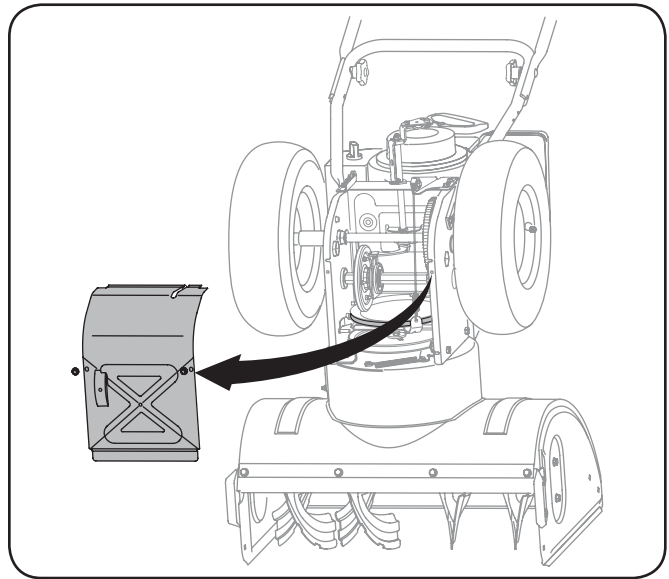

Figure 7-8
3. Remove the frame cover from the underside of the snow thrower by removing four self-tapping screws which secure it. See Fig. 7-8.